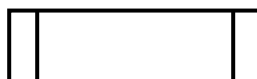
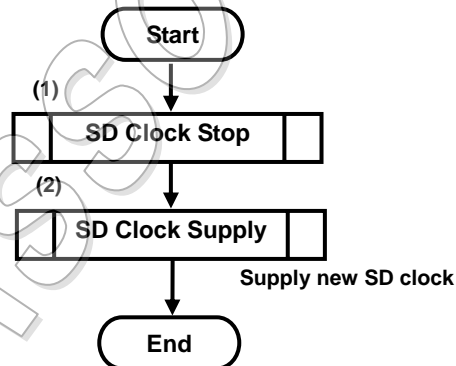

Figure 3-1 : Double Box Notation
Figure 3-5: SD Clock Change Sequence
This specification uses the double box like Figure 3-1, (the step (1) in Figure 3-5 and the step (5) in Figure 3-24), It means that the other flows, which already are shown, shall be performed. Therefore, the interrupt may be included in the other flows.
The sequence for changing SD Clock frequency is shown in Figure 3-5. When SD Clock is still off, step (1) is omitted. Please refer to Section 3.2.2 for details regarding step (1) and Section 3.2.1 for step (2).